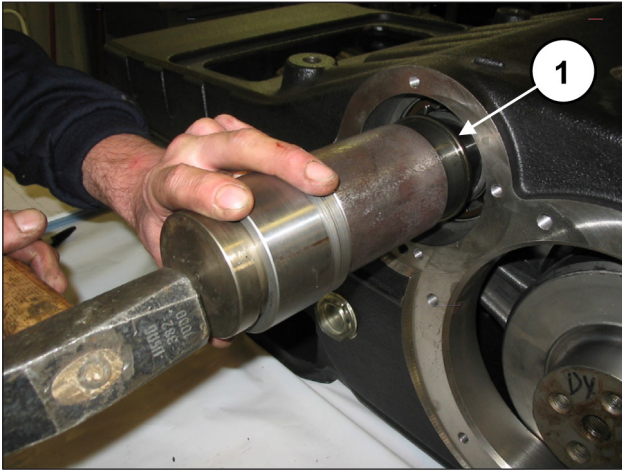
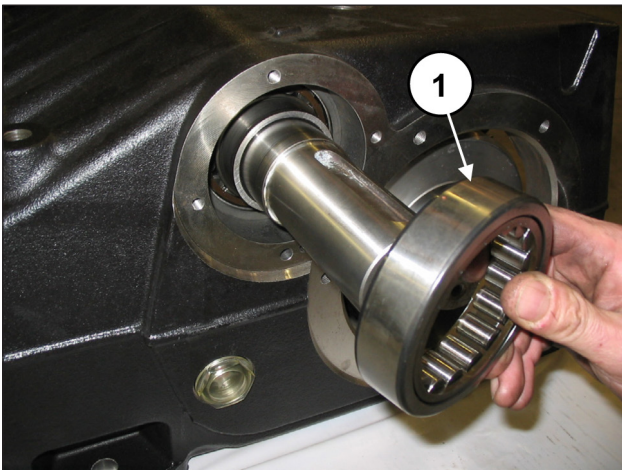

Fig. 62
Fig. 63
Insert the internal ring (pos. ①, Fig. 62) and external ring (pos. ①, Fig. 63) of a bearing from one side of the pump only.
Insert the internal ring (pos. ①, Fig. 62) and external ring (pos. ①, Fig. 63) of the last bearing.